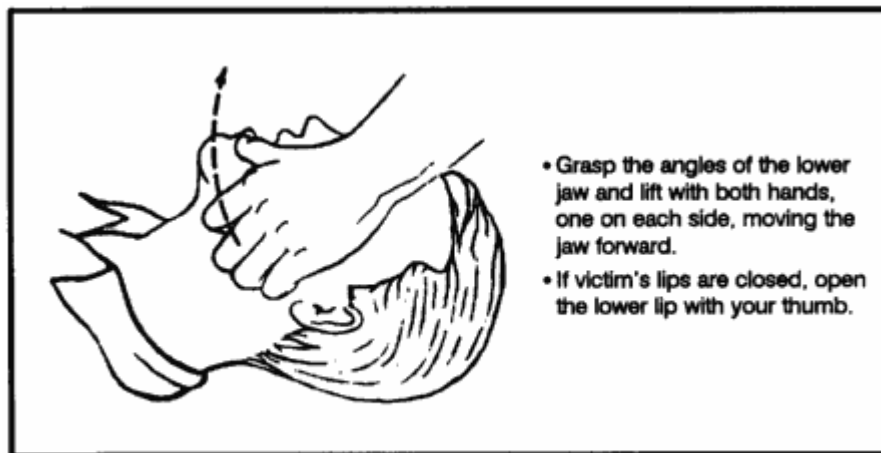

Figure 4-1. Jaw thrust method.
Step 3. Using the jaw thrust method, grasp the angles of the victim's lower jaw and lift with both hands, one on each side, moving the jaw forward. For stability, rest your elbows on the surface on which the victim is lying. If his lips are closed, gently open the lower lip with your thumb (Figure 4-1).